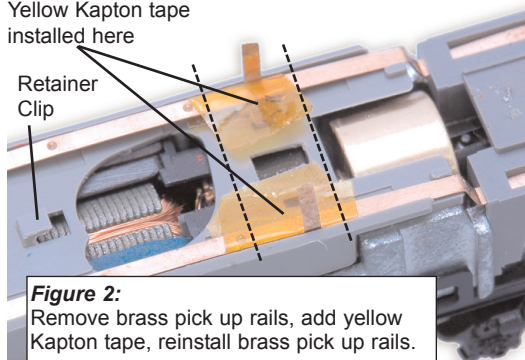

Figure 2:
4. Gently lift up (about 3 or 4 mm) the brass pickup rail from one side of the locomotive, being careful not to bend it. Wrap a small piece of yellow Kapton tape (supplied with the Digitrax decoder) around the rail just to the front of the dimple (between the dotted lines in photo, right). The tape should wrap around the outside edge to ensure the brass motor clip is completely isolated from the brass pickup rail when it is reinstalled. Trim excess tape on the INSIDE edge of the brass pickup rail and reinstall it in the locomotive, lining it up over the position pin. Repeat the process for the other brass pick up rail. (**Figure 2**)